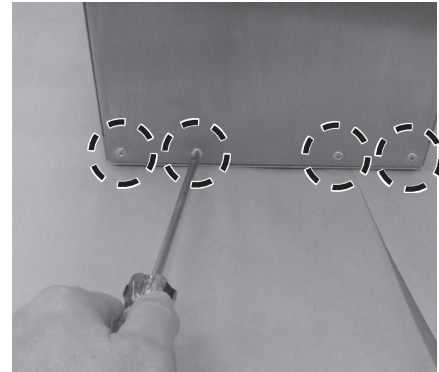

Figure 6-14 Removing Blower Plug and Screws
4. See Figure 6-14. Remove the M4 x 10 Philips screw next to the blower cable receptacle. Unplug the blower cable from the receptacle.
2. See Figure 6-14. Replace the eight screws at the base of the lamphead (4 front and 4 rear). Install the two screws into the cover on both sides of the unicable receptacle. Tighten the screws to 1.35 N•m (12 in-lbs).